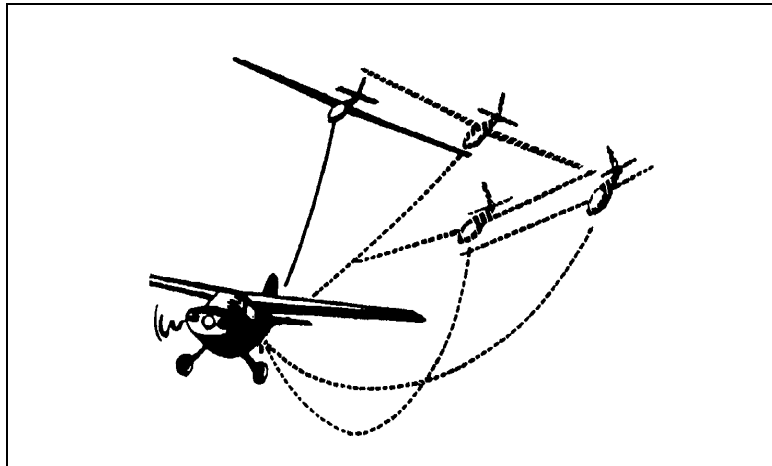

Figure 2-4-6 Slack During Turn
- b. If a glider over-banks during a turn and moves rapidly to the inside, the fixed length of the rope will cause it to accelerate forward relative to the tow aircraft. The typical reaction of the student pilot is to overcorrect in the turn back toward the correct position. With extra speed at the glider, the result of the change in direction is slack in the tow rope (Figure 2-4-6).